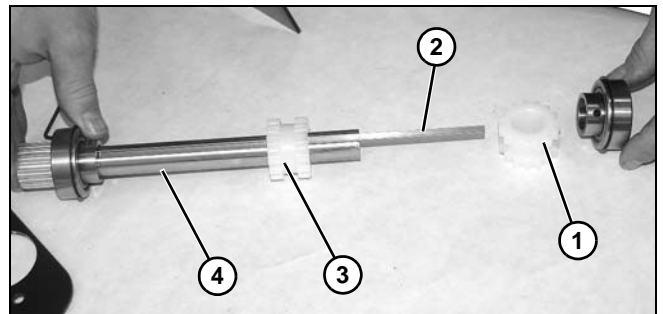

Figure 130
22. Remove gear (**Figure 130, item 1**), key (**Figure 130, item 2**), and second gear (**Figure 130, item 3**) off of driveshaft (**Figure 130, item 4**).